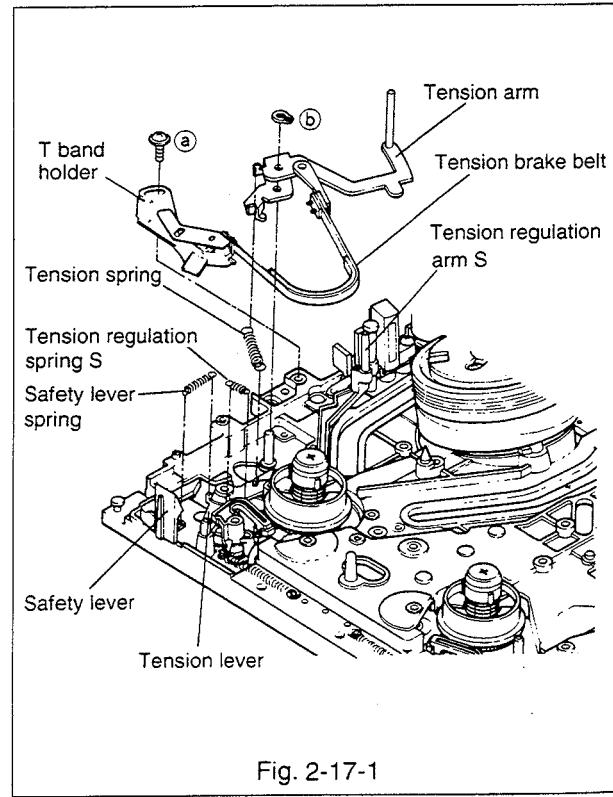

Fig. 2-17-1
### 2-17-1 Removal(Refer to Fig. 2-17-1~2-17-4.)
- D. Secure the tension arm and the tension regulation arm S with a rubber band etc. so as to separate them from the supply guide roller.(Refer to Fig. 2-17-1.)
#### 2-17-2 Installation(Refer to Fig. 2-17-1~2-17-4.)
- F. Fasten the capstan brake spring to the capstan brake and the loading gear arm from the top side of the deck.(Refer to Fig. 2-17-1.)